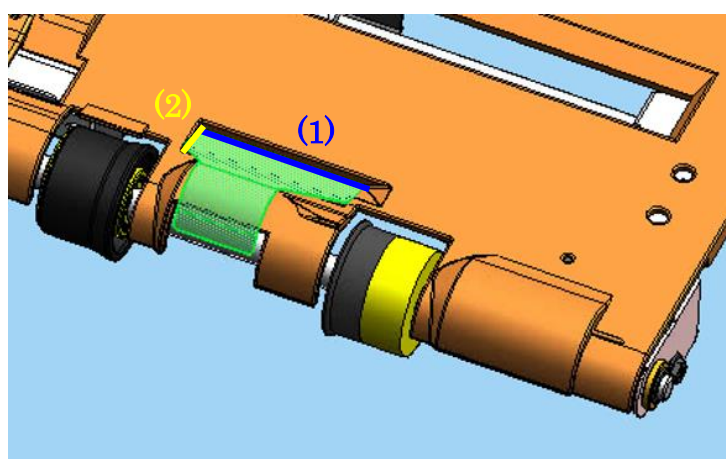

Fig. 2: Performing the attachment
- Press the long and short edges of the Mylar (edges 1 and 2 in **Fig. 2**) flush against the recessed grooves in the frame, and then press down on the adhesive surface to attach.